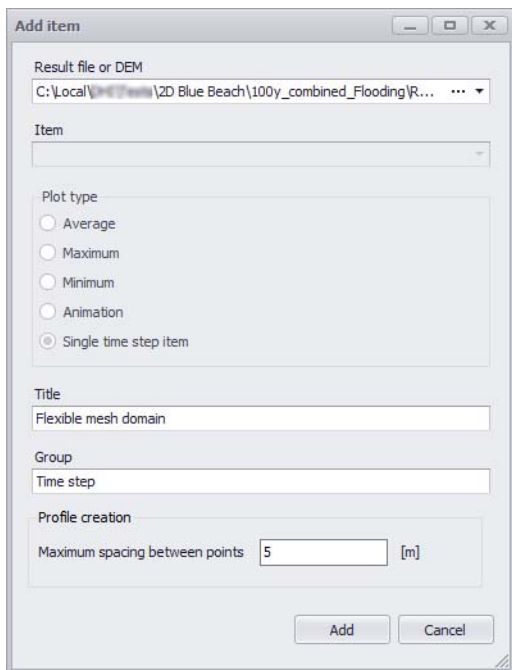

Figure 20.40 The 'Add item' dialog where the DEM file and settings are specified
- Select the DEM file, as well as the item if the file contains multiple items. A maximum spacing must also be specified: it controls the spacing between points along the DEM profile (Figure 20.40).